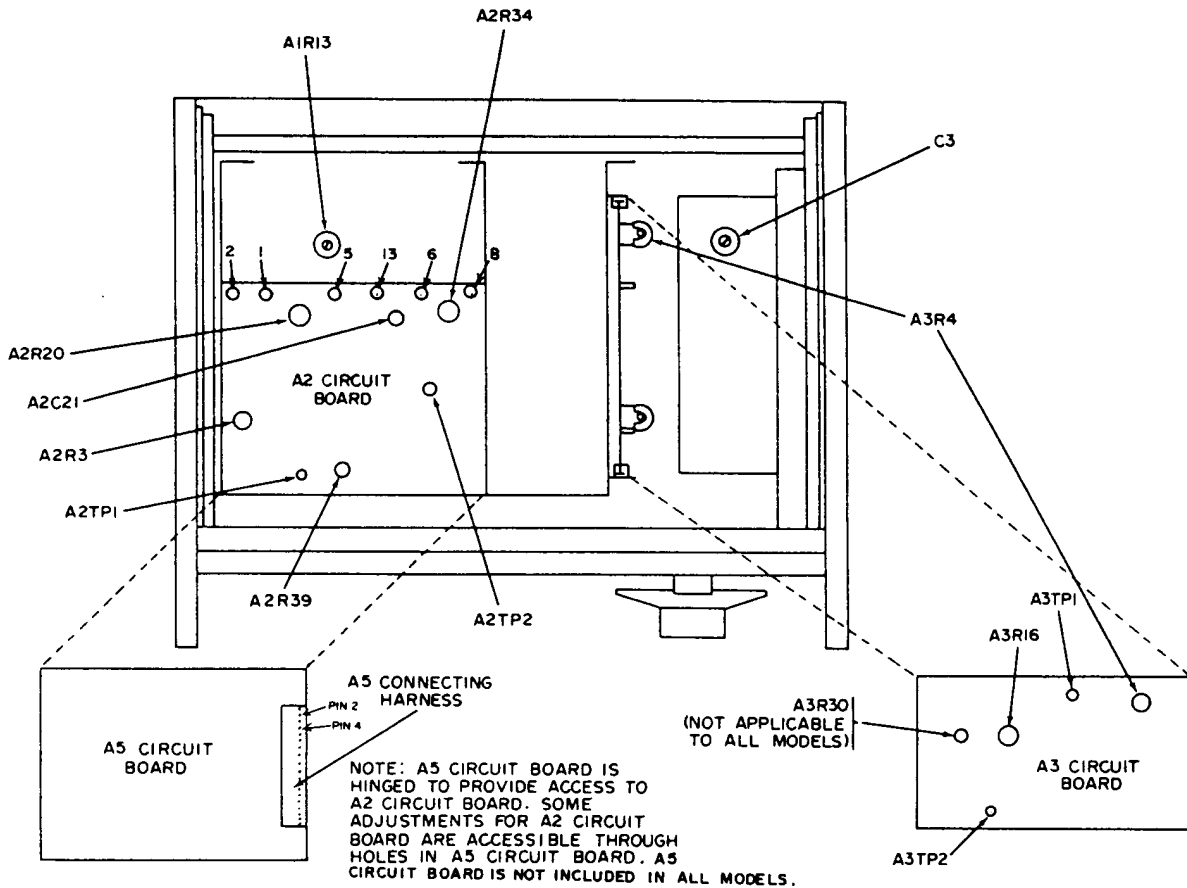
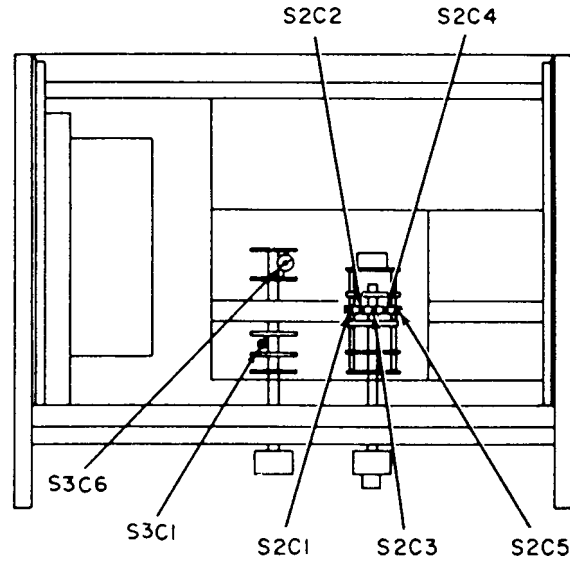

Figure 1. Distortion analyzer - top view.
Figure 2. Distortion analyzer - bottom view.
- (1) Adjust calibrator frequency for 400 Hz and 0.001 V output.
(2) Adjust A2R34 (fig. 1) for 0.001 V indication on TI voltmeter (R).
(1) Set **METER RANGE** switch to **.01 VOLTS**.
(2) Adjust calibrator frequency to 1 kHz and amplitude for a 0.01 V indication on TI meter. Set the reference level on calibrator by pressing the **NEW REF** key.
(3) Adjust calibrator frequency to 2 MHz and output amplitude for 0.0% error display reading.
(4) Adjust A2R39 (fig. 1) for a 0.01 V indication on TI meter (R).
(5) Adjust calibrator frequency to 3 MHz and output amplitude for 0.0% error display reading.
(6) Adjust A2C21 (fig. 1) for a 0.01 V indication on TI meter (R).
(7) Repeat (3) through (6) above as necessary to correct for any interaction between adjustments.
(8) Set **METER RANGE** switch to **.3 VOLTS**.
(9) Adjust calibrator frequency to 1 kHz and amplitude control for a 0.3 V indication on TI meter. Set the reference level on calibrator by pressing the **NEW REF** key.
(10) Adjust calibrator frequency to 2.5 MHz and amplitude for 0.0% error display reading.
(11) Adjust S3C6 (fig. 2) for a 0.3 V indication on TI meter (R).
(12) Set **METER RANGE** switch to **3 VOLTS**.
(13) Adjust calibrator frequency to 1 kHz and amplitude control for a 3 V indication on TI meter. Set the reference level on calibrator by pressing the **NEW REF** key.
(14) Adjust calibrator frequency to 200 kHz and output amplitude for 0.0% error display reading.
(15) Adjust S3C1 (fig. 2) for a 3 V indication on TI meter (R).
| Sensitivity switch positions | Adjustments (fig. 2) | Test instrument meter indications |